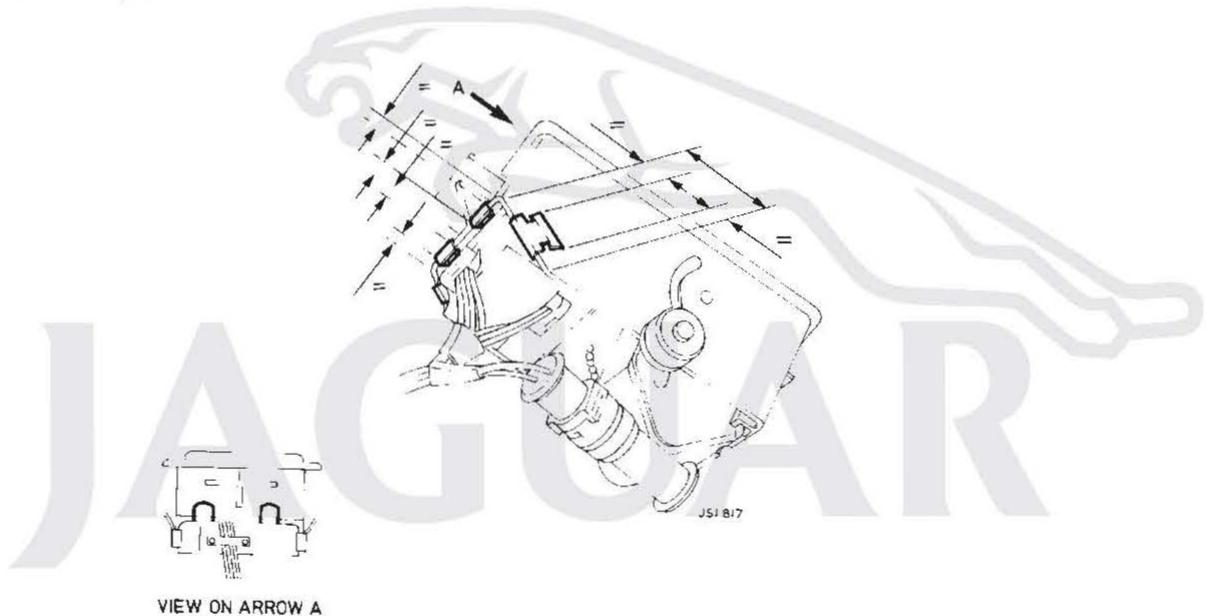

Fig 7
- 5 Fit anti-rattle clips BD 10313 to switch pack webs at the locations indicated in (Fig 7).